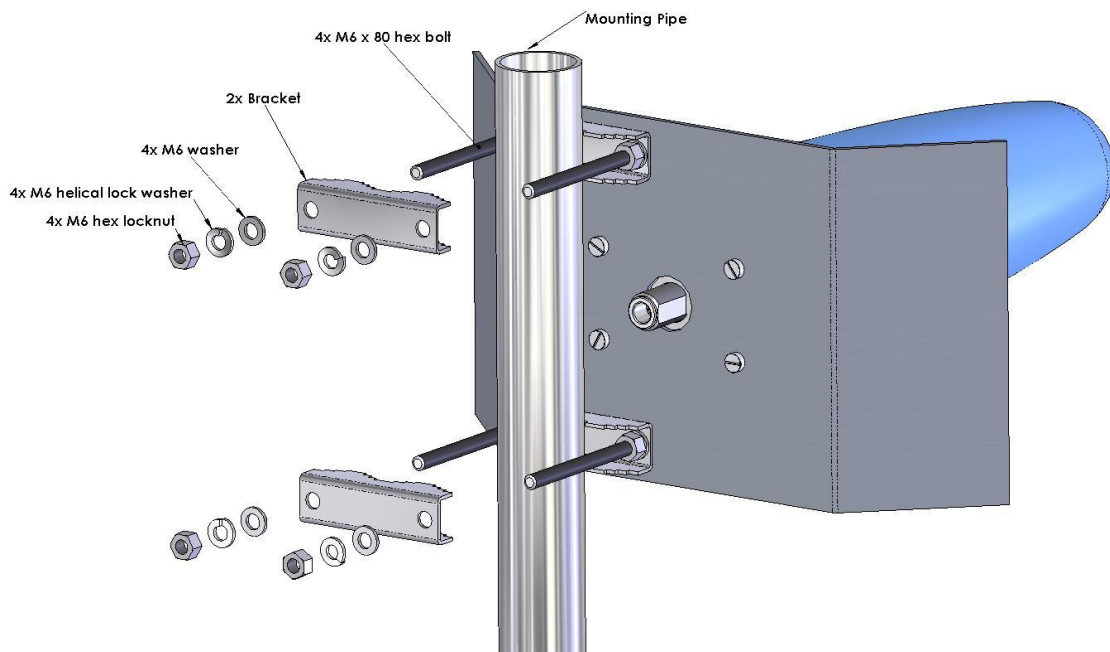

Figure 3
2. Properly orient the antenna and attach it to the mounting pipe (Figure 3). The antenna polarization is marked on the antenna label. For horizontal polarization, use a horizontally oriented mounting pipe.